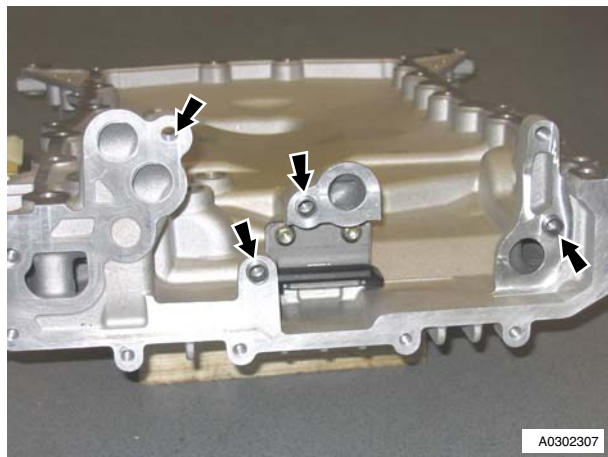

Figure 8
- Remove dowels (x4) from sump for oil pressure and scavenge pumps location (refer to Figure 8).